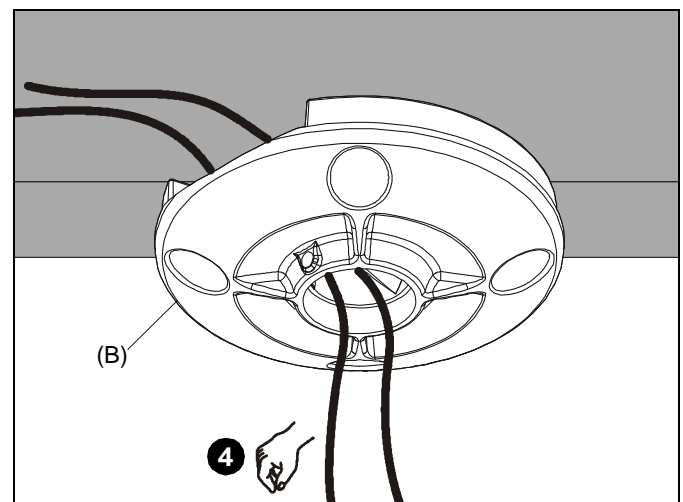

**Figure 2**
2. Drill 1/4" diameter pilot holes into wood joist. (See Figure 2) Ensure pilot holes are straight.
3. Using 9/16" socket wrench, loosely install two (minimum) Grade 2 (not included) 3/8" x 2-1/2" lag screws through 3/8" washers (F), ceiling plate (B), into wood joist (See Figure 2). Do not tighten plate (B) against ceiling at this time to accommodate cable installation.
5. Tighten lag screws. (See Figure 2)